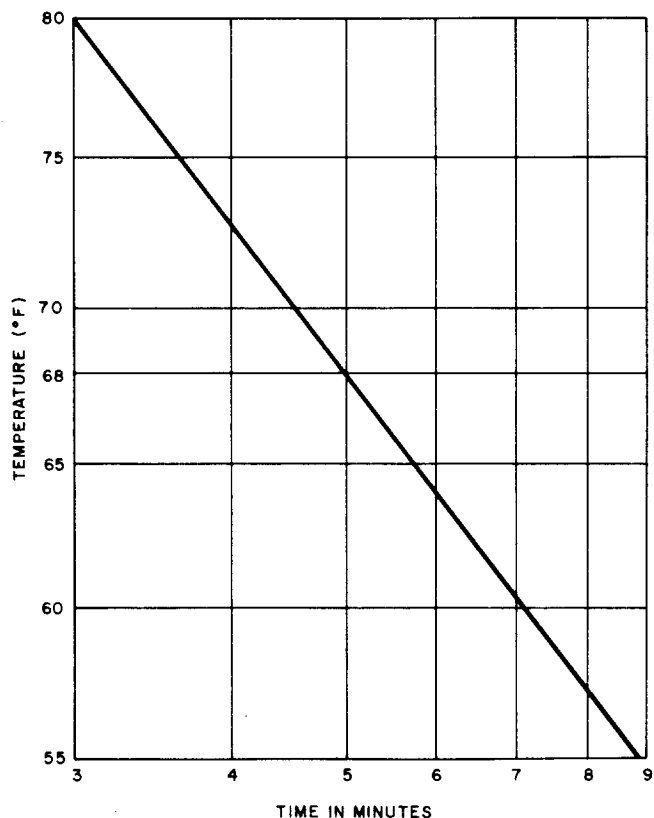

Fig. 5—Time and Temperature Chart
- (a) Load the Kodak day-load tank in accordance with the instructions furnished with the tank. Using the Kodak D-11 developer full strength, develop for 5 minutes at 68°F or for corrected time at temperatures other than 68°F as shown in Fig. 5. In no case should the temperature exceed 80°F. (See note.) Agitate the film for the first minute and for about 10 seconds each minute thereafter.